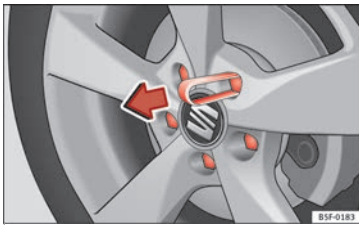

Fig. 60 Pull off the wheel bolt cap.
- Fit the plastic clip (vehicle tools) over the cap until it clicks into place » **Fig. 60**.